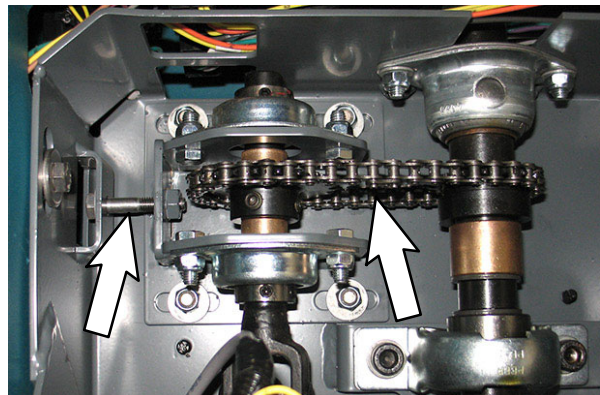
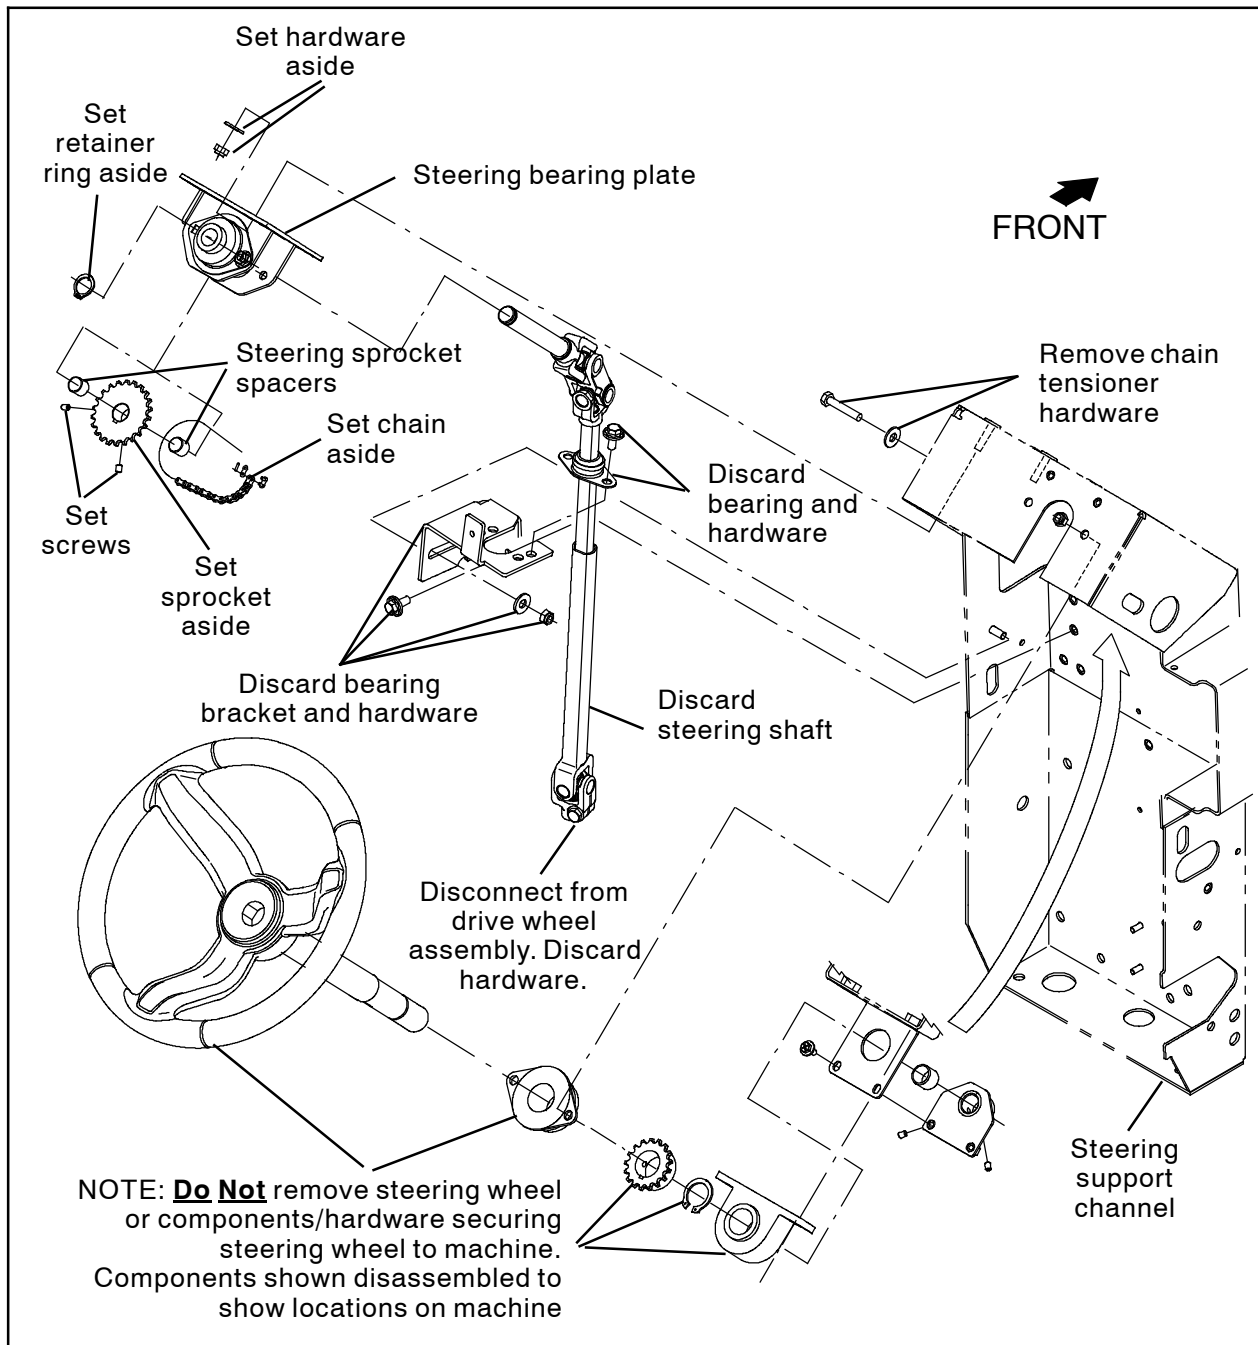
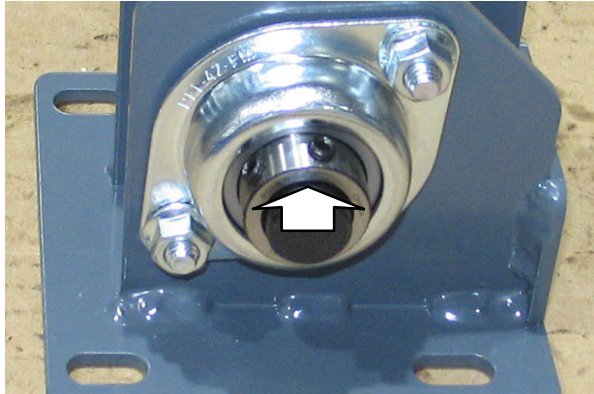

FIG. 4
FIG. 5
FIG. 15
2. Remove the SEMS M8 hex screw (steering tension) from the steering support channel and bearing support plate. Set the SEMS M8 hex screw aside. (Fig. 4/Fig.5)
3. Remove the steering chain from the steering assembly. Set the steering chain and the chain link aside. (Fig. 4/Fig.5)
4. Remove the hardware securing the steering bearing assembly to the steering support channel. Set the hardware aside. (Fig. 5)
5. Remove the hardware securing the bearing bracket to the steering support channel. Set the hardware aside. (Fig. 5)
6. Remove the steering shaft/items attached to the steering shaft from the machine. Remove the steering bearing assembly from the steering shaft and set steering bearing assembly aside. Discard the steering shaft/remaining items attached to the steering shaft. (Fig. 5)
15. Install the retainer ring onto the steering shaft (6). (Fig. 15/ Fig. 5)